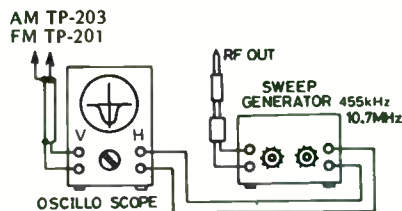

Fig. 1
- (c) Adjust the output level of the sweep generator so that the wave form as shown on Fig. 1 will be observed on the scope, however, keep the generator output as low as possible to avoid clipping or saturation.